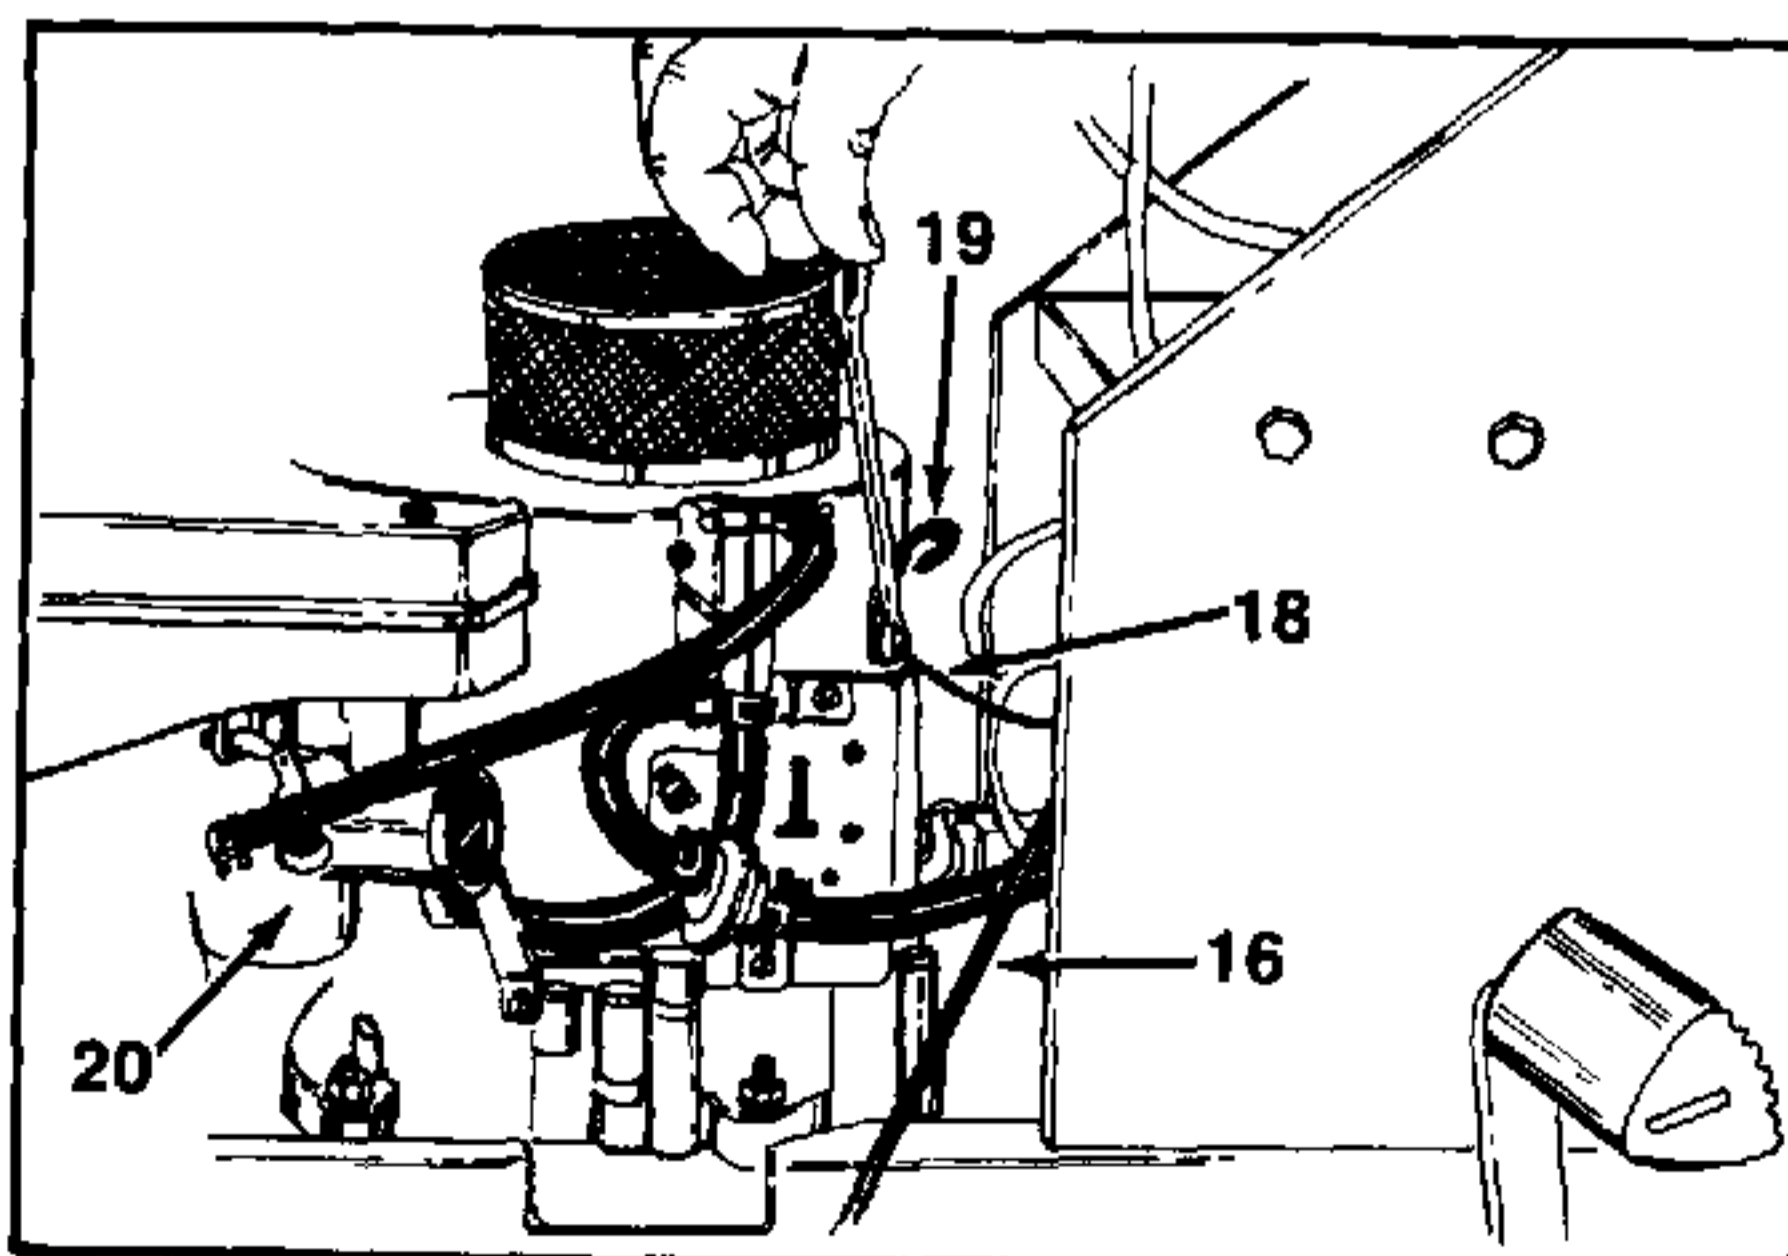

FIGURE 9.
8. Disconnect the ground wire (Ref. 18) from the back of engine and remove the cable clamp (Ref. 19) at the same time. See figure 9.